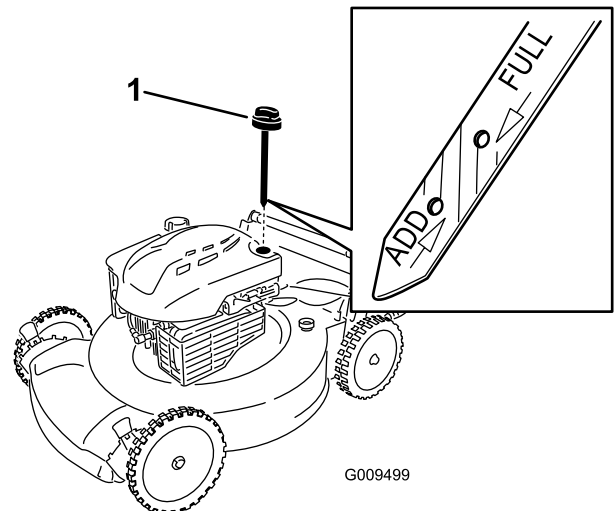

Figure 5
2. Remove the dipstick (Figure 5) and pour about 3/4 of the crankcase capacity of oil into the oil-fill tube.
5. Remove the dipstick and read the oil level on the dipstick; refer to Figure 5.